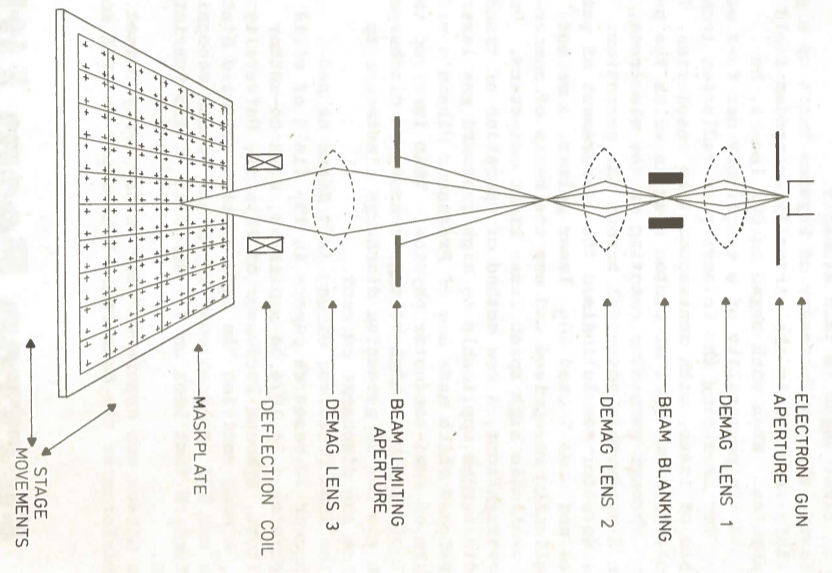

Fig 2: Basic components of an electron beam pattern generator showing simple electron optics column and X-Y stage.
An electron beam pattern generator consists of two basic parts as illustrated in Fig 2 above. These are: (1) An electron optics column capable of focussing a beam of electrons down to a diameter of 0.05-1 micron. The spot may be deflected over a field approximately 1 mm x 1 mm at stepping rates in the order of 1 MHz to an accuracy of 1:10,000.
(11) An X-Y computer controlled stage, driven by stepping motors and using laser interferometers to digitize position to  $\pm 0.026$  microns. The stage system enables large mask plates up to 4" x 4" to be fabricated from a number of electron beam fields carefully aligned to each other.